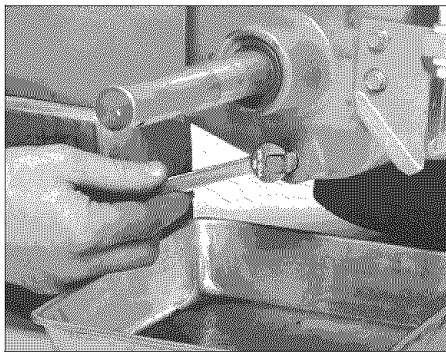

Figure 5-4: Remove drain plug to drain transmission gear oil (also remove oil fill plug and oil level check plug).
3. Place a clean pan below the transmission drain plug (Figure 5-4) and remove the drain plug. The oil will start flowing out of the drain hole (it may flow slowly, especially in cold temperatures).